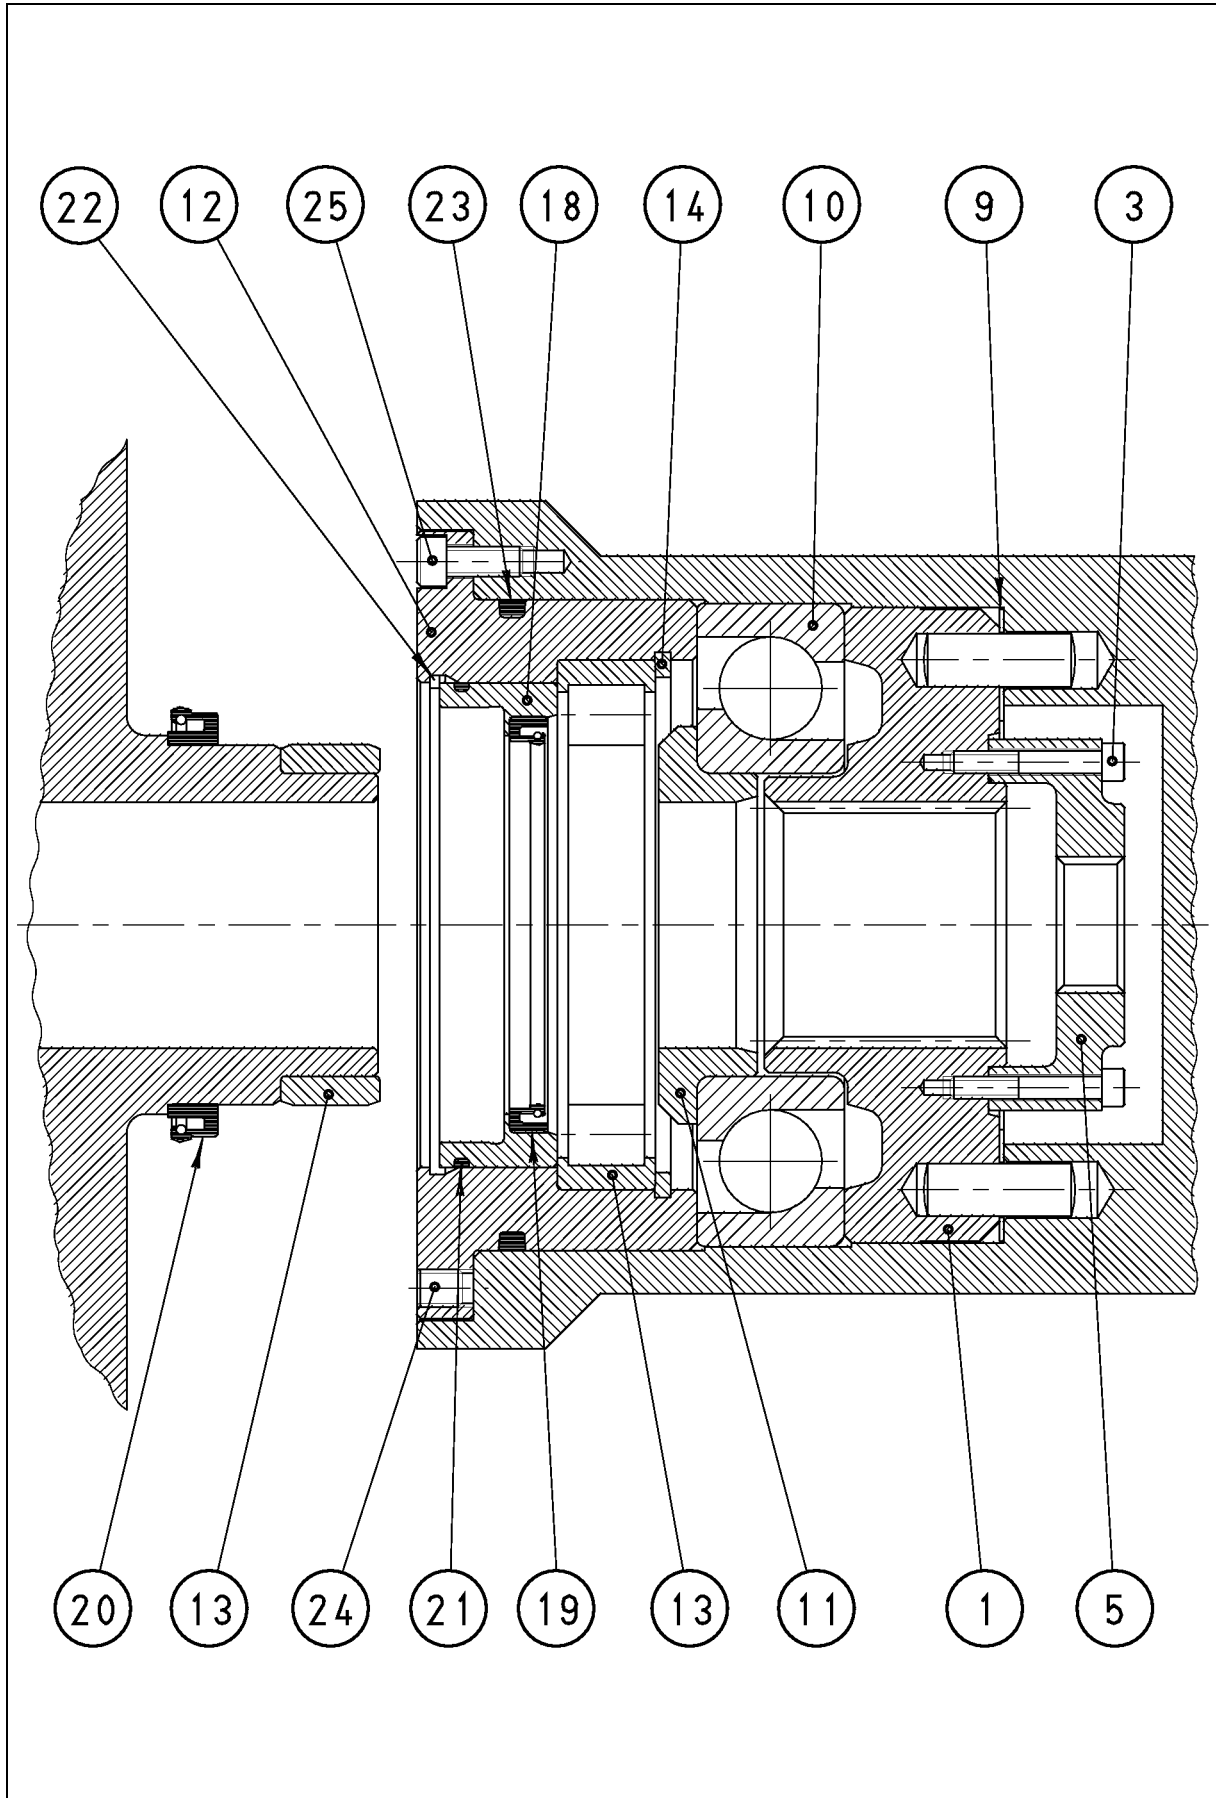

Figure 4.3.1
4.3 Conveyor Bearings (Fig. 4.3.1)